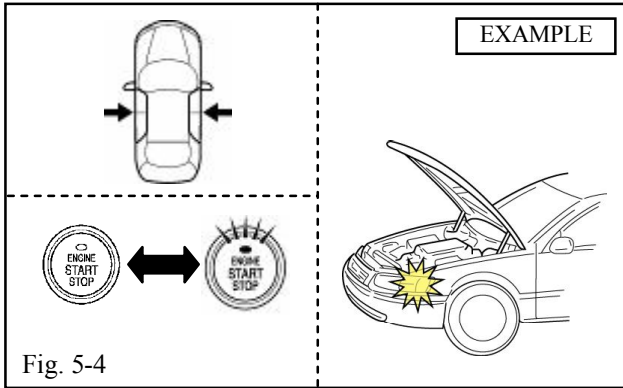

Fig. 5-4
- (e) Ensure all Doors are closed and the Smart Key is in your possession. (Fig. 5-4)
- (f) Cycle the “Engine Start Stop” Button from “OFF” to “ON” 5 times. (Fig. 5-4)
- (1) Place the Shift Lever in the "P" (park) or "N" (neutral) Position.
- (g) Once the fifth cycle has been completed, the Hazard Lights Flash once. (Fig. 5-4)